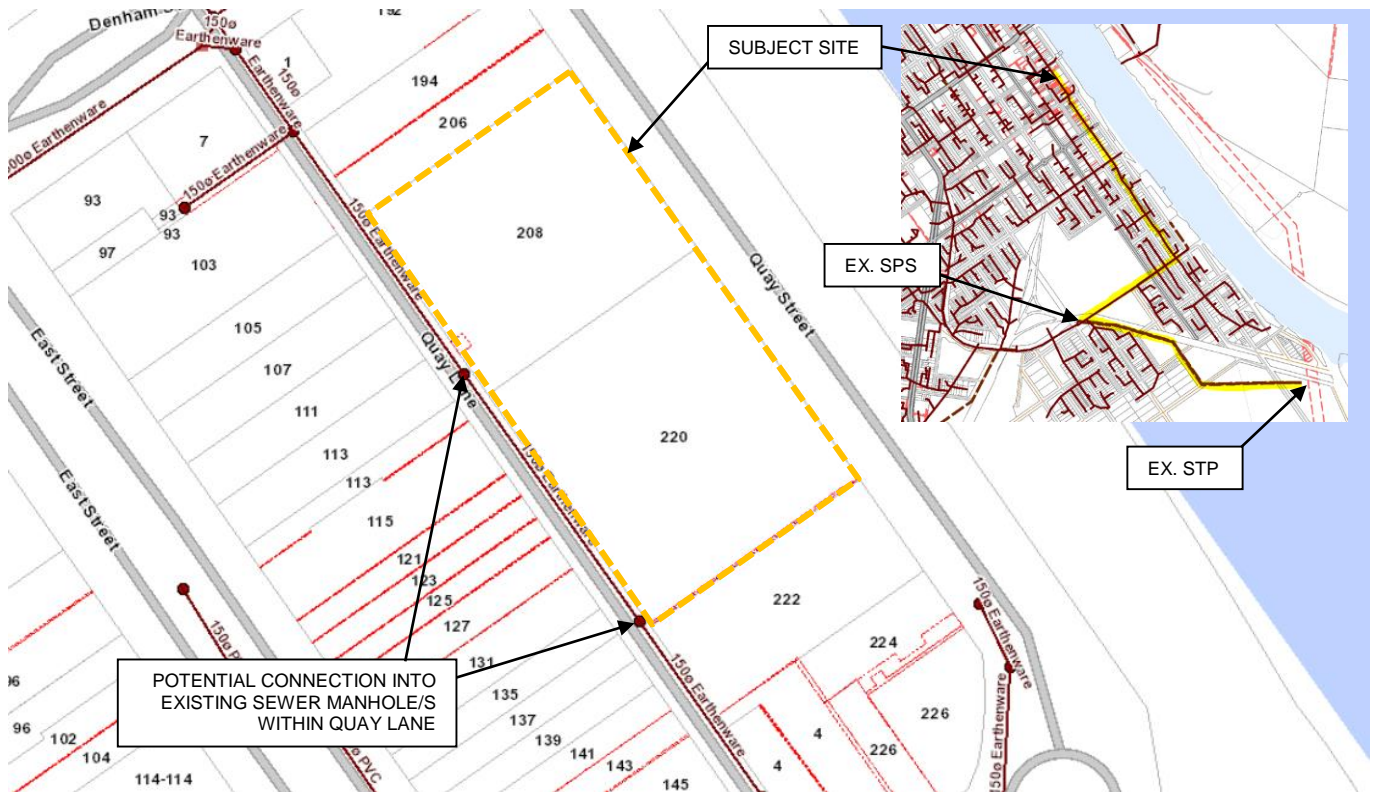

Figure 3.1 Existing Sewer Infrastructure (Rockhampton Online Mapping, 2018)
It is proposed that the new building be connected to the existing 150mm dia. earthenware system via a new connection to one (1) of the two (2) existing manholes located on the South-Western boundary of the subject site fronting Quay Lane (refer Figure 3.1). A new connection to one or both of these manholes shall be carried out by Fitzroy River Water (FRW) via a Private Works Application and shall be at the developer's expense. It is proposed that as part of this development, the existing sewer connections over the site are decommissioned, with exception to the existing Customs House (Lot 3 on RP619454) connection, which is to remain. From Council records, the invert level of the Southernmost existing manhole within Quay Lane is 4.593m making the depth to invert of this main approximately 3.6m. Given that this existing main appears to be relatively deep, it is suggested that any new connections are made into the existing manhole to avoid excessive trenching to make connections directly into the existing 150mm dia. earthenware main. Additionally, providing a new connection into one or both of these existing manholes will eliminate the need to alter the expected fragile existing earthenware pipes. All internal building sanitary drainage is to be designed and detailed by a suitable qualified person (Hydraulic Engineer) during the detailed design process.